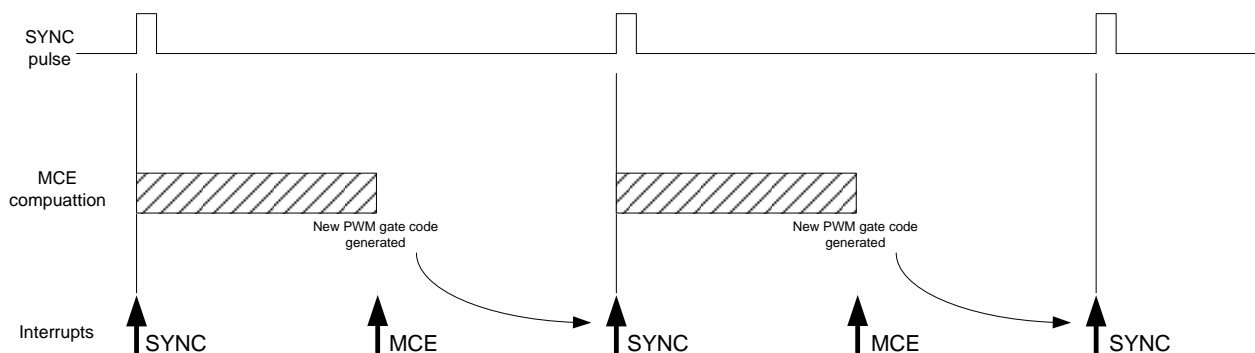

Figure 89. Timing of Sync and MCE Computation
- On each motor PWM cycle after the motor control calculations are completed. In this case, bit 8 of the MCE FLAGS register is set. The timing is indicated in Figure 89.
The SYNC interrupt is a periodic event signal generated by the MCE. Its timing is illustrated in Figure 89. This is the most important signal used for synchronization between the 8051 (CPU side) and the MCE (motion control side). An 8051 application software task that needs to pass commands to the MCE and/or receive updated data from the MCE may require specific synchronization with the MCE. This is due to the fact that MCE computation is initiated and triggered by the SYNC pulse at every PWM carrier frequency period. It is also true that six PWM outputs to the power device gate drive will occur at exactly one clock moment of the system clock (SYSCLK) at the beginning of the SYNC event. If synchronization is not implemented and the 8051 application software writes multiple data items to the MCE via the shared RAM, it is possible that some of the data are written in the previous MCE scan period while the rest of data are written in the current MCE scan period. Therefore, 8051 application software should use the SYNC signal for synchronization to insure that multiple data items are updated or read coherently within a particular scan period.